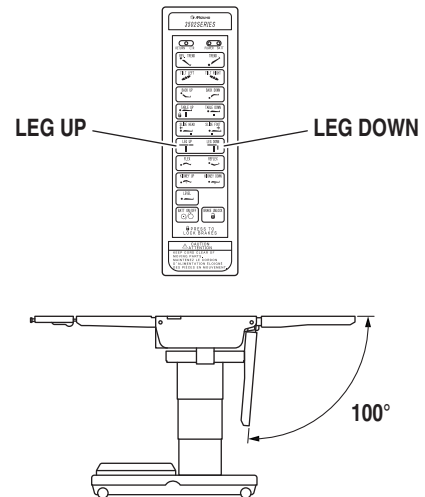

Figure 2-14. Leg Section Positioning
g. Leg Section To lower the leg section, press the LEG DOWN button (figure 2-14). The leg section will go down to 100° below horizontal. To raise the leg section, press the LEG UP button. The leg section will go up to level.